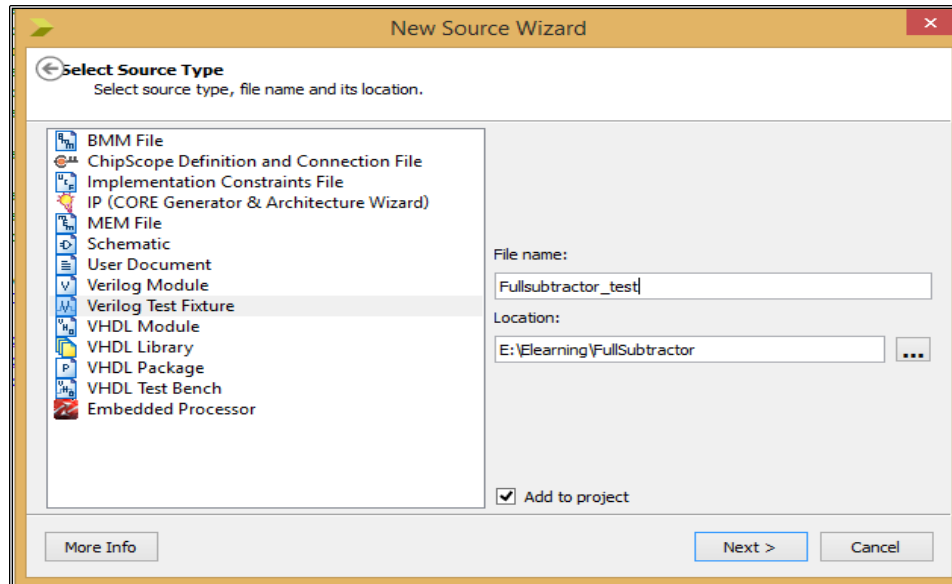

Fig 4.9: FullSubtractor testbench
12. For checking the functionality of the design, you have to apply test vectors and simulate the circuit. Right click on the design (FullSubtractor.v) and select **New Source**. In the New Source Wizard window, select **Verilog Test Fixture** .Write the “Fullsubtractor_test” in the **File name** field for the test bench (Fig 4.9). Click **Next**.